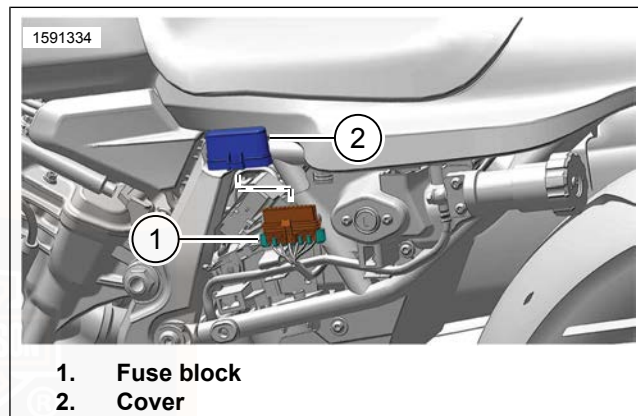
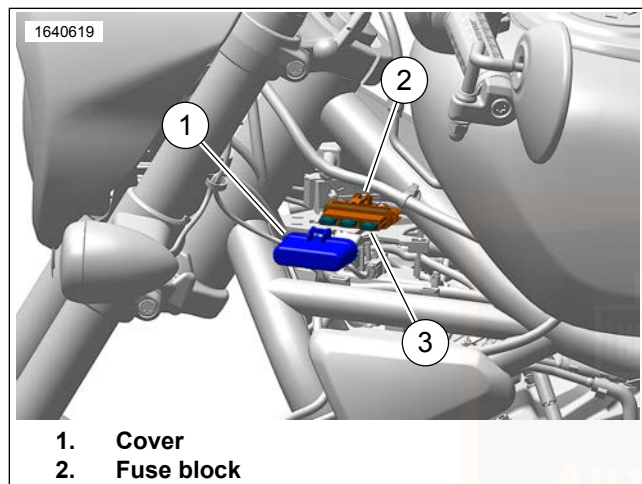

Figure 100. Fuse Block Location (RH1250S)
Figure 101. Fuse Block Location (RH975/S)
See Figure 100 or Figure 101. The fuse block is located under left side cover.
3. See Figure 100 or Figure 101. Remove cover from fuse block.
1. See Figure 100 or Figure 101. Install fuse block cover.